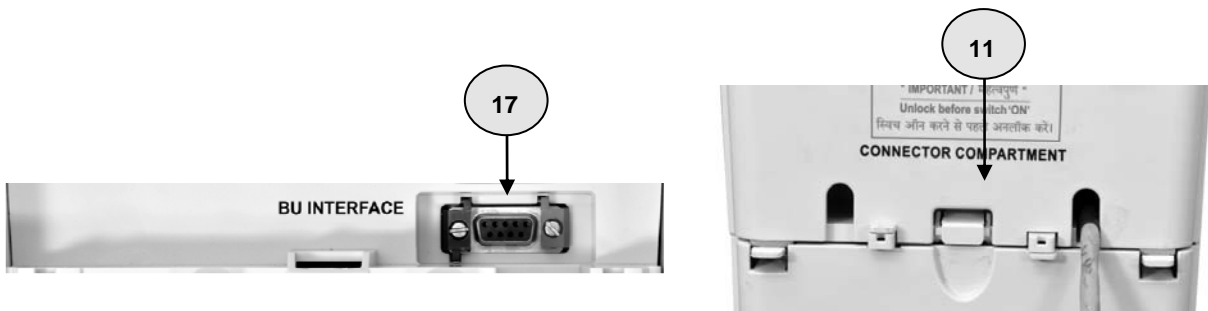

Figure 2.4 - Connector Compartment
- (a) This compartment provides access to one 9-pin D type connector for BU interface (17 with Red and Black latch Female type). The compartment is covered by a door (11) which provides space for taking out a wire, for connection to BU.
- (b) The pictorial view of the connector compartment is shown in the Figure 2.4.